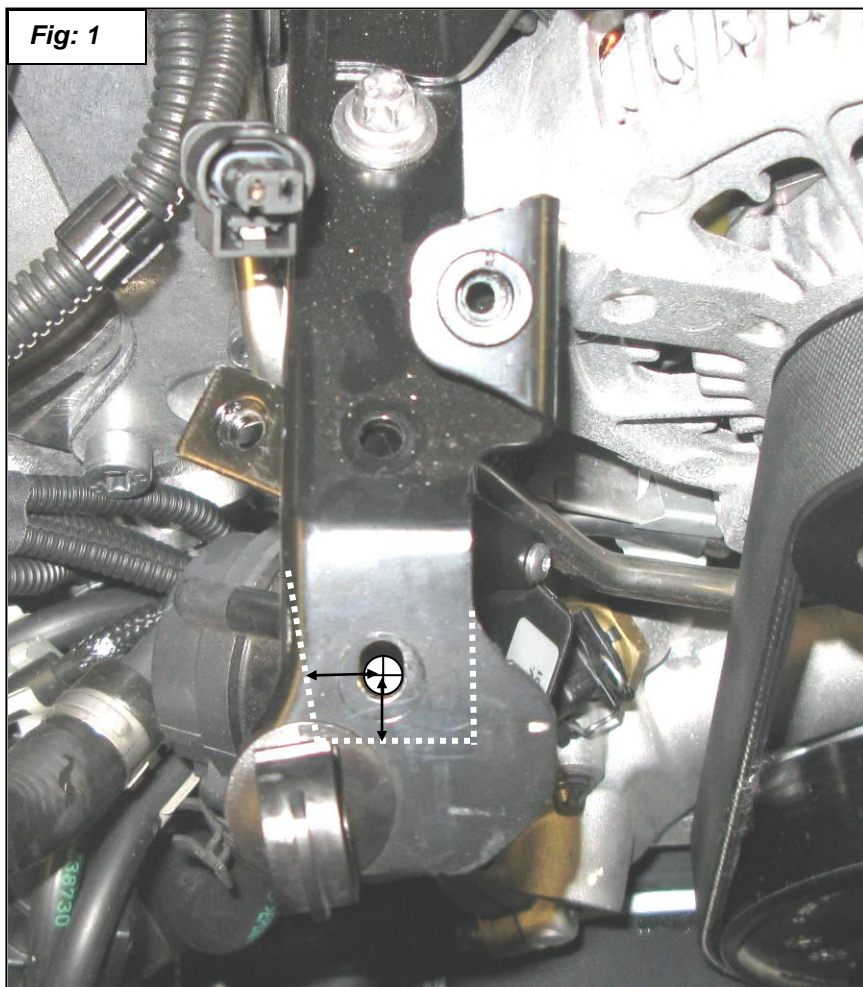

Fig: 1
5. Cut the expansion tank bracket as shown in figure 1. Draw a line down from the inside edge of the bracket. Draw the other 2 lines 0.90" from the inside edge and 0.40" on center of the hole.